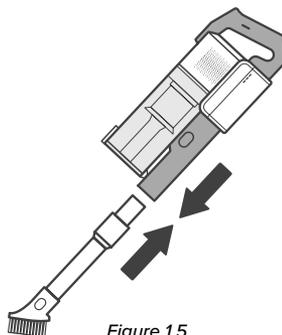

Figure 1.5
2. Slide the nozzle attachment onto the vacuum body. **[Figure 1.5]**